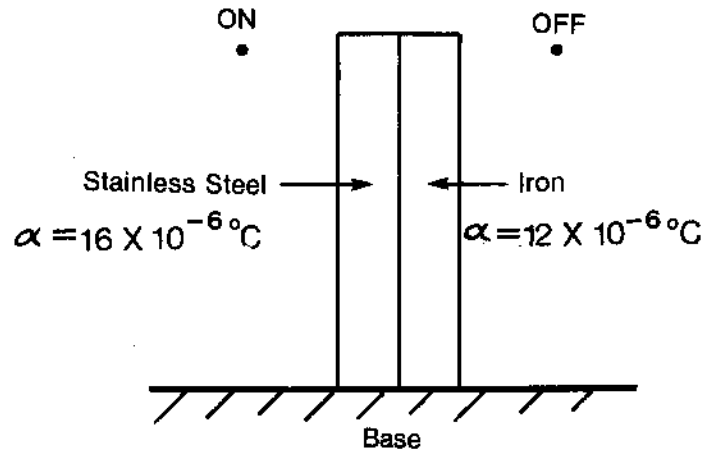

Figure 2.2
2.7) Towards which contact will the strip shown in Figure 2.2 move as it is cooled? Briefly explain why.
2.5) The original lengths of the two materials are the same and both substances undergo a 5°C temperature difference. The behaviour of the strip thus depends on the coefficients of linear expansion of the two metals. Since the coefficient for brass is greater than that for carbon steel, the brass will become longer. The only way this situation can occur in this strip is if the strip bends as shown in Figure 2.2.